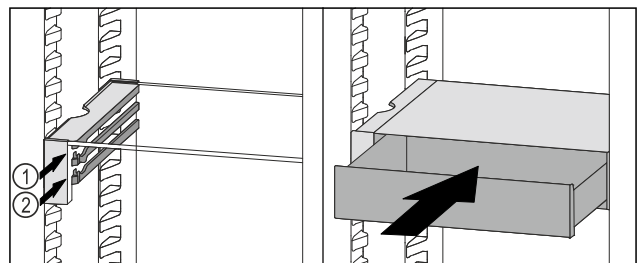

Fig. 113
- Place the VarioSafe drawer behind the stoppers on desired rib Fig. 113 (1) or Fig. 113 (2).